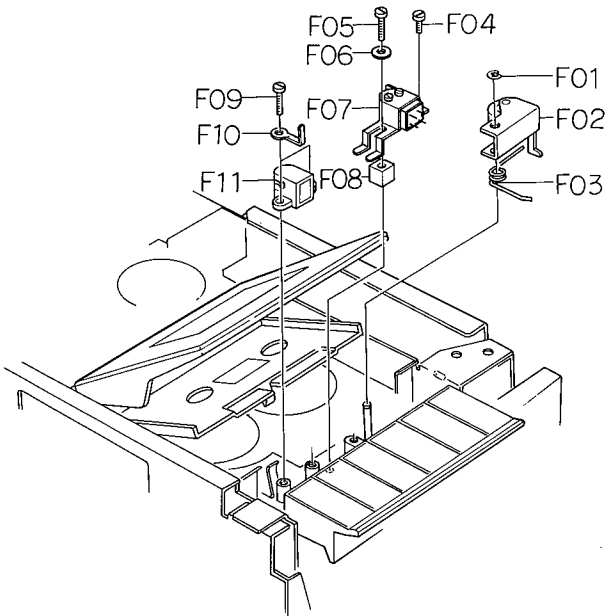

Fig. 3.2
Remove the cabinet (item 3.1). Refer to Fig. 3.2 and remove F01 through F03 (pressure roller), F04 through F08 (record/playback head) and F09 through F11 (erase head).